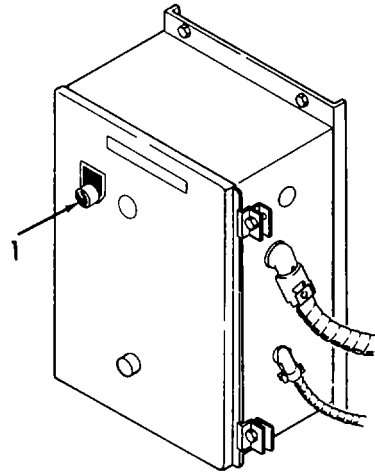

Figure 2-7. Motor Shut-Down.
- a. Refer to Figure 2-7. Turn the motor starter box off/auto switch (1) to stop the motor.